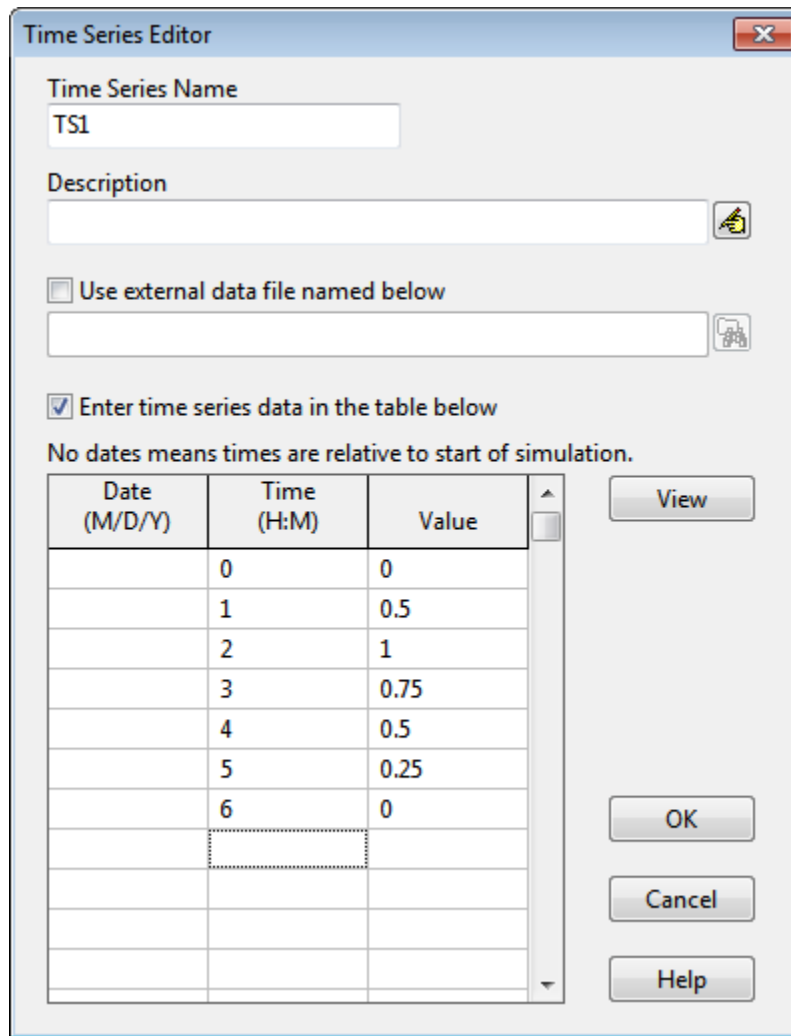

Figure 2-7 Time series editor
2. Click the  button on the Browser to bring up the Time Series Editor dialog (see Figure 2-7)⁷.
4. Enter the values shown in Figure 2-7 into the *Time* and *Value* columns of the data entry grid (leave the *Date* column blank⁸).